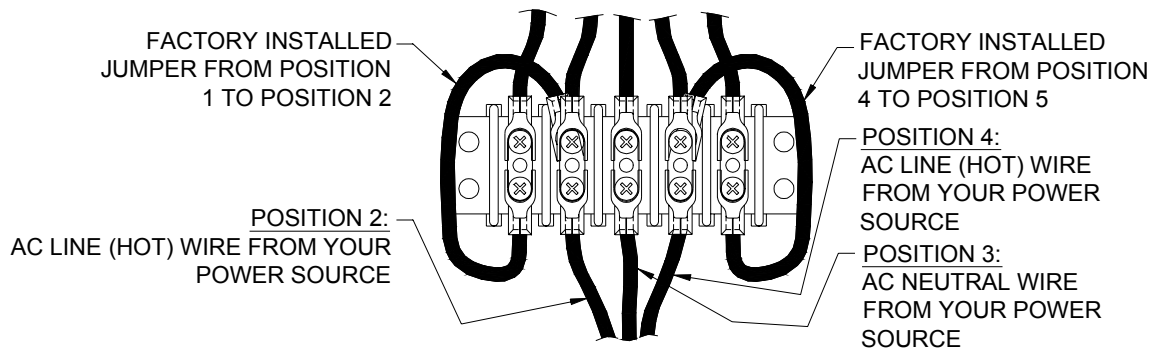

Figure 9 240 VAC Connections
- If you are going to connect the scoreboard to a 240 VAC supply, connect one AC line wire to position 2, AC neutral wire to position 3, and the other AC line wire to position 4 of terminal strip T4 on the junction chassis according to figure 9.